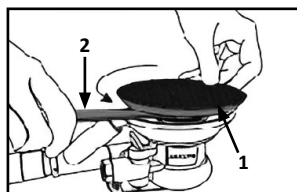

Fig. 7
2. Firmly hold the nut securing the sanding pad (1) with the wrench (2) provided and unscrew the pad manually to remove it. (Fig. 7)